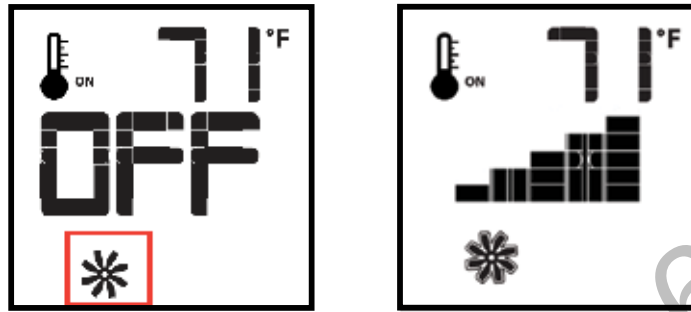

Figure 12: Comfort fan control.
If the fireplace is equipped with a hot air circulating fan, the speed of the fan can be controlled by the Proflame system. The fan speed can be adjusted through six (6) speeds. To activate this function use the Mode Key (Figure 1) to index to the fan control icon (Figure 12). Use the Up/Down Arrow Keys (Figure 1) to turn on, off or adjust the fan speed (Figure 12). A single “beep” will confirm reception of the command.